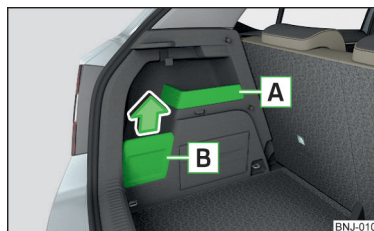

Fig. 112
- If possible, take the item of luggage suspended from the hook and place it in the storage compartment **B** » Fig. 112 on page 86, otherwise there is a risk of damaging the storage compartment cover.
- If an item of luggage weighing more than 2.5 kg is suspended on the hook, then we recommend removing the storage compartment cover **B** » Fig. 112 on page 86, otherwise there is a risk of damaging the storage compartment cover.
The integrated storage compartment » Fig. 112 is suitable for stowing small objects weighing up to 1.5 kg in total.